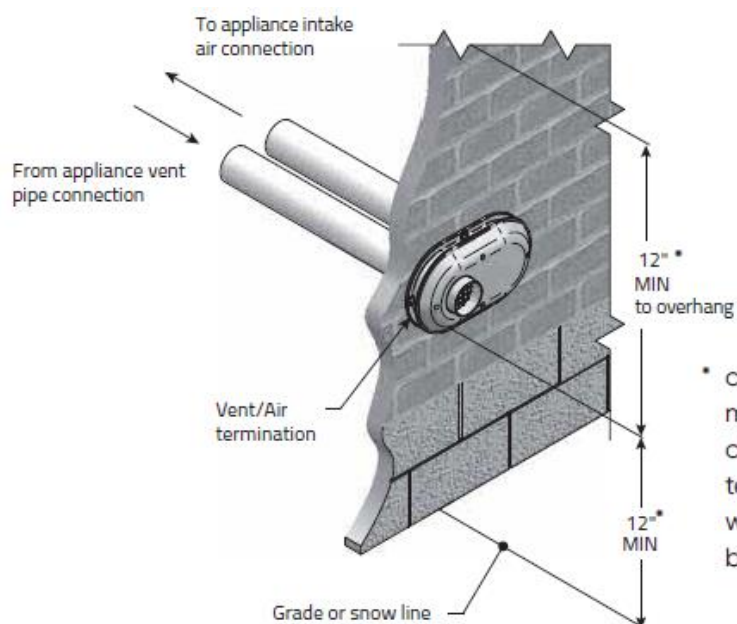

Figure 24 – Typical Side Wall Termination
7. Secure assembly to structure as shown in Figure 23. Ensure clearances as shown in Figure 24.
8. Cement heater combustion-air and vent pipes to concentric Y fitting termination assembly. See Figure 24 for proper pipe attachment.
The vent termination **must** maintain all termination clearances and be installed in accordance with local building codes and/or The National Fuel Gas Code ANSI Z223.1 (Latest Edition) or CGA/CAN B149 Installation Code (see Figure 24).
When locating the penetration of the vent and air pipe, ensure the termination is properly oriented as shown in Figure 25 and ensure that it maintains minimum clearance requirements as shown in Figure 24. For multiple vent terminations, ensure that a minimum clearance of 12 in (30 cm) is maintained between edge of air inlet and adjacent vent outlet and that all vent pipes and air inlets terminate at the same height to avoid the recirculation of flue gases and the possibility of causing severe personal injury, death, or substantial property damage (see Figure 27).
2. Slide both the intake and vent pipe through the holes. Solvent weld both pipes to the base of the vent termination kit (see Figure 24).